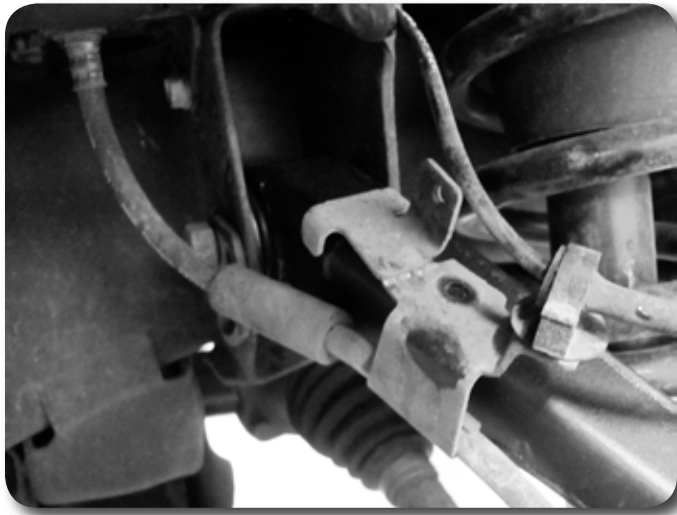

Figure 4
12. **0-3" lift:** Cut the extra tab from the brake line bracket as shown. Use 1/4" hardware (#768) to attach the brake bracket to the upper control arm. Figure 4